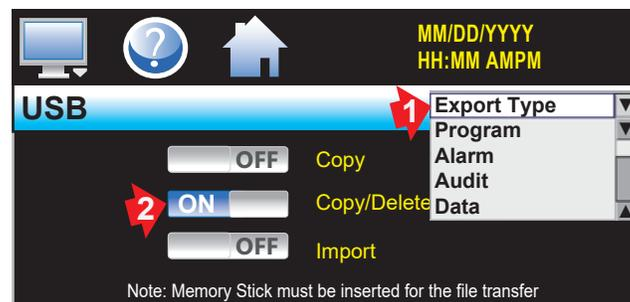

Figure 34. USB Screen
- Touch: (1)Export Type drop-down arrow. Select: Program, Alarm, Audit, or Data. (2)slide ON: Copy, or Copy/Delete, or Import. Files copy to/ from USB with progress bar (Figure 34).